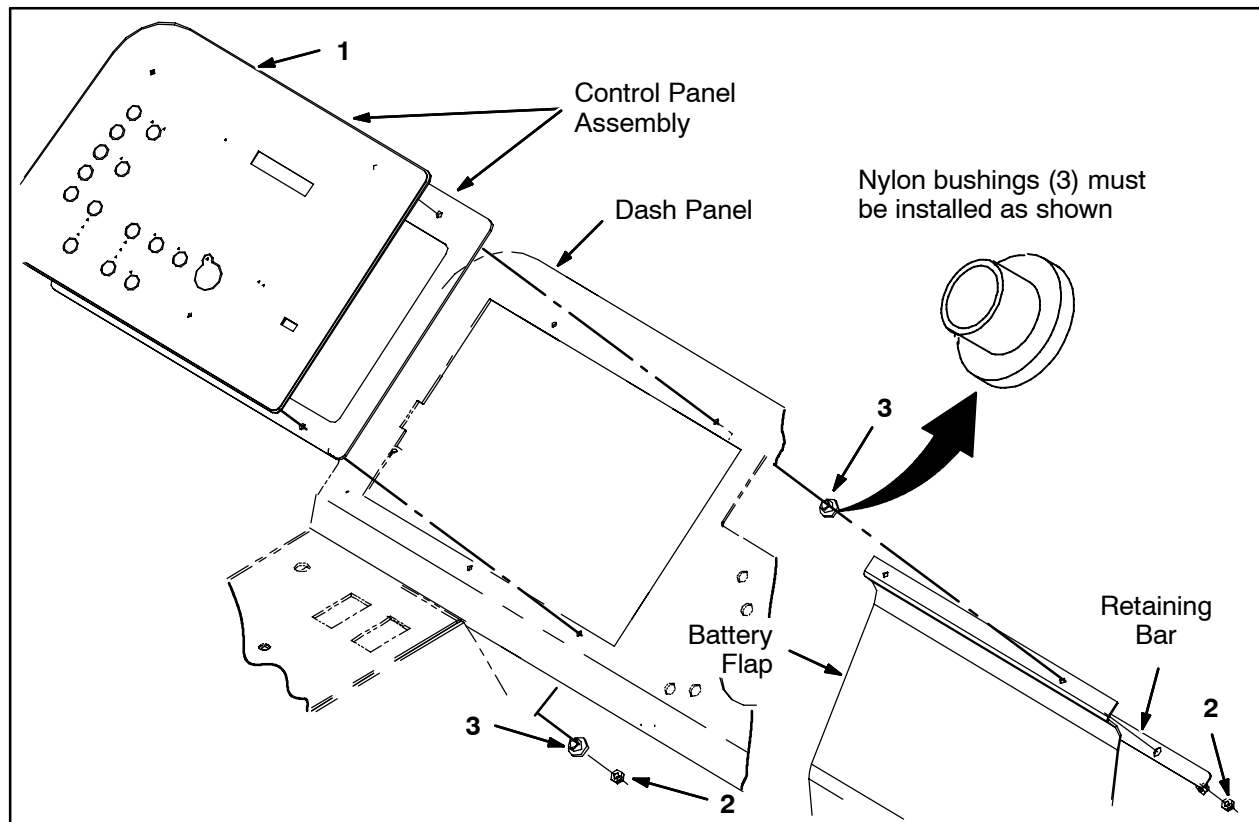

FIG. 3
*NOTE: **Do Not** discard the hex nuts removed in the following two steps if working on early production machines. The hex nuts are needed to install the new panel label (1) onto the dash panel.*
4. Remove the two hex nuts holding the battery flap and retaining bar to the back of the dash panel. Set the battery flap and retaining bar aside, and if working on an early production machine, set the hex nuts aside. Discard both hex nuts if working on a current production machine. Refer to Fig. 3.
5. Remove the two hex nuts holding the bottom of the control panel to the back of the dash panel. If working on an early production machine, set the hex nuts aside. Discard both hex nuts if working on a current production machine. Refer to Fig. 3.
6. Remove the control panel from the dash panel. Set the circuit board/control panel face down on a clean flat surface. Discard the four nylon bushings. Refer to Fig. 3.
- Use the hex nuts (2), or saved hex nuts if working on an early production machine, and the four new nylon bushings (3) to install the control panel assembly, battery cover, and retaining bar onto the dash panel. Refer to Fig. 3.